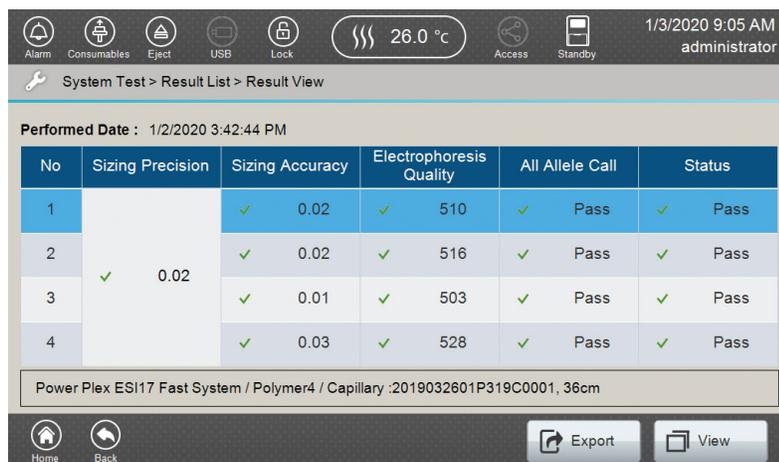

Figure 226. Fragment System Test 'Result View' screen with selected sample.
6. Select the line in the Result List corresponding to the system test sample you wish to review. This will activate **Export** and **View** in the footer (Figure 226).